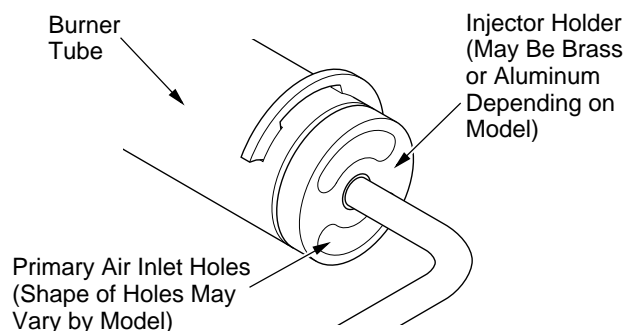
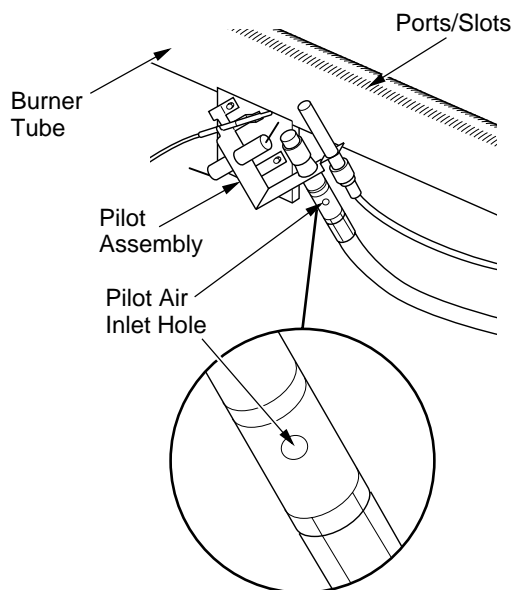

Figure 47 - Injector Holder On Outlet Burner Tube
Figure 48 - Pilot Inlet Air Hole
2. Inspect burner, pilot, and primary air inlet holes on injector holder for dust and dirt (see Figure 47 and Figure 48, page 22).
Clean the pilot assembly also. A yellow tip on the pilot flame indicates dust and dirt in the pilot assembly. There is a small pilot air inlet hole about two inches from where the pilot flame comes out of the pilot assembly (see Figure 48). With the unit off, lightly blow air through the air inlet hole. You may blow through a drinking straw if compressed air is not available.